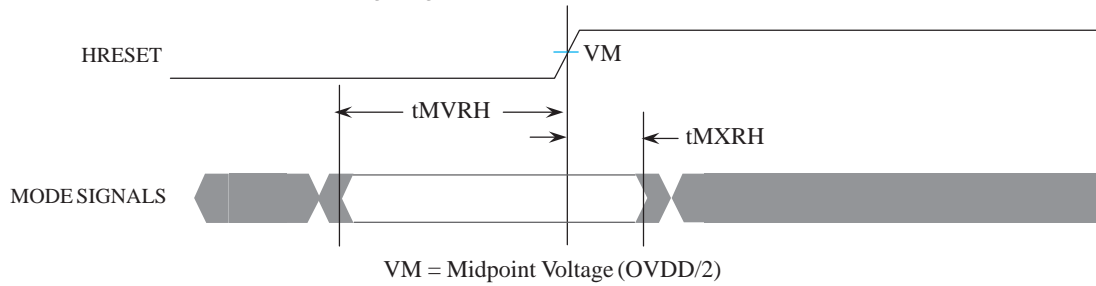

Figure 11 : Mode Input Timing Diagram
Table 11 provides the processor bus AC timing specifications for the PC755B as defined in Figure 11 and Figure 13. Timing specifications for the L2 bus are provided in Section 4.2.1., "L2 Clock AC Specifications."
Notes: <ol style="list-style-type: none"> <li>All input specifications are measured from the midpoint of the signal in question to the midpoint of the rising edge of the input SYSCLK. All output specifications are measured from the midpoint of the rising edge of SYSCLK to the midpoint of the signal in question. All output timings assume a purely resistive 50 ohm load (See Figure 11). Input and output timings are measured at the pin; time-of-flight delays must be added for trace lengths, vias, and connectors in the system.</li> <li>The symbology used for timing specifications herein follows the pattern of t(signal)(state)(reference)(state) for inputs and t(reference)(state)(signal)(state) for outputs. For example, tVKH symbolizes the time input signals (I) reach the valid state (V) relative to the SYSCLK reference (K) going to the high(H) state or input setup time. And tKHOV symbolizes the time from SYSCLK(K) going high(H) until outputs (O) are valid (V) or output valid time. Input hold time can be read as the time that the input signal (I) went invalid (X) with respect to the rising clock edge (KH) - note the position of the reference and its state for inputs -and output hold time can be read as the time from the rising edge (KH) until the output went invalid (OX). For additional explanation of AC timing specifications in Motorola PowerPC microprocessors, see the application note "Understanding AC Timing Specifications for PowerPC Microprocessors."</li> <li>The setup and hold time is with respect to the rising edge of <math>\overline{\text{HRESET}}</math> (see Figure 11).</li> <li>This specification is for configuration mode select only. Also note that the <math>\overline{\text{HRESET}}</math> must be held asserted for a minimum of 255 bus clocks after the PLL re-lock time during the power-on reset sequence.</li> <li>tsysclk is the period of the external clock (SYSCLK) in nanoseconds (ns). The numbers given in the table must be multiplied by the period of SYSCLK to compute the actual time duration (in nanoseconds) of the parameter in question.</li> <li>Mode select signals are BVSEL, L2VSEL, PLL_CFG[0-3]</li> <li>Guaranteed by design and characterization.</li> <li>Bus mode select pins must remain stable during operation. Changing the logic states of BVSEL or L2VSEL during operation will cause the bus mode voltage selection to change. Changing the logic states of the PLL_CFG pins during operation will cause the PLL division ratio selection to change. Both of these conditions are considered outside the specification and are not supported. Once <math>\overline{\text{HRESET}}</math> is negated the states of the bus mode selection pins must remain stable.</li> </ol>
Figure 11 provides the mode select input timing diagram for the PC755B.